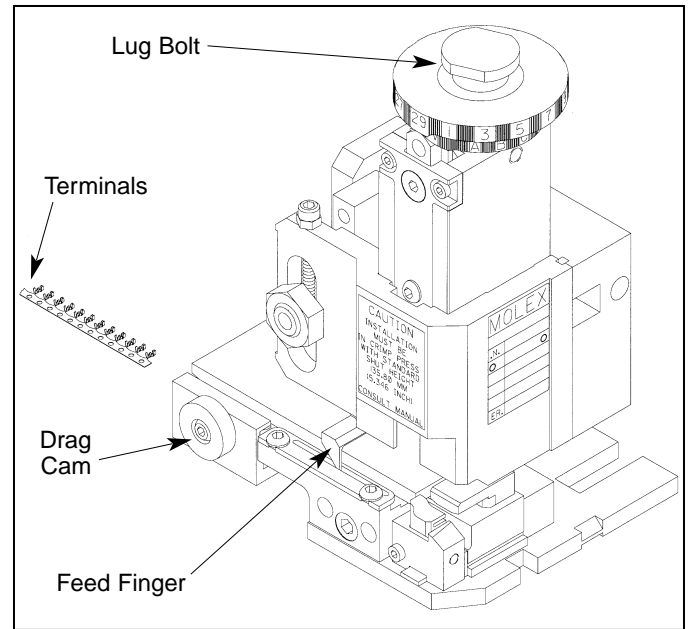

Figure 2.2.2 Fitting Terminal Strip
- 2.2.1.2 Slide the FineAdjust onto the base plate until the two notches on the left side engage against the stops and at the same time enter the lug bolt into the adapter on the press. (Refer to Fig. 2.2.2 Fitting Terminal Strip)
- 2.2.2.3 Rotate the drag cam until the drag frame is fully raised. This will allow the terminal to slide with ease through the applicator track. (Refer to Fig. 2.2.2 Fitting Terminal Strip)
- 2.2.2.9 Raise feed finger and pull terminal strip back until disengaged from applicator track. (Refer to Fig. 2.2.2 Fitting Terminal Strip) If preferred, cut the terminal carrier strip and pull it through the applicator with needle nose pliers.